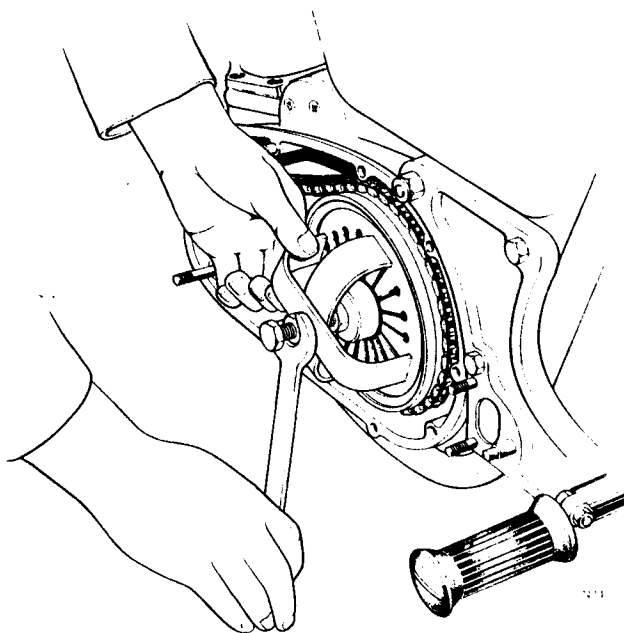

Fig. C13 Diaphragm spring compressor tool 060999 in use
- 9 In order to dismantle the clutch, a compressor tool part number 060999 is needed for the diaphragm spring of the clutch. The tool is shown in use in *Fig. C13*. Note that the tool has been screwed into the adjuster hole in the spring centre. The centre bolt must be lightly tightened and must be at least $\frac{1}{4}$ in. engaged into the diaphragm spring centre. Now place a spanner on the withdrawal nut as shown in *Fig. C13*. Turning clockwise will tighten the withdrawal nut until pressure has been released from the diaphragm spring and the spring completely free to rotate